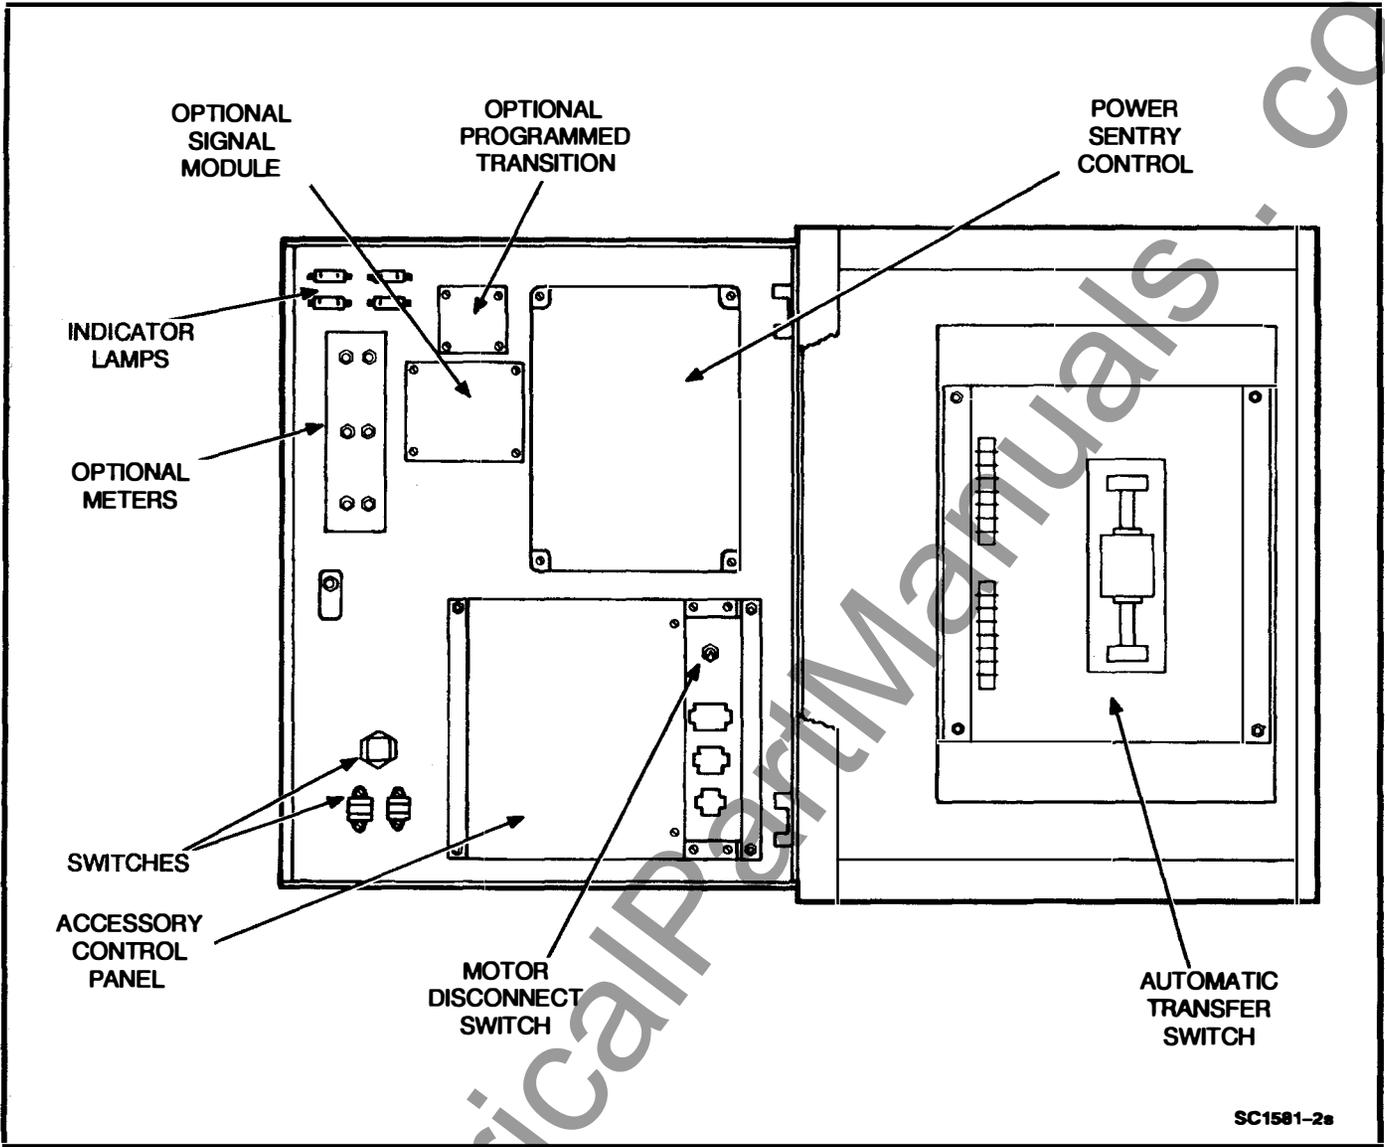

FIGURE 6-3. UTILITY-TO-UTILITY CABINET INTERIOR
The transfer switch (Figure 6-3) opens and closes the contacts that transfer the load between source 1 and source 2 power. The transfer switch is mechanically interlocked to prevent simultaneous closing to both power sources. The main parts of the transfer switch discussed here are the contact assemblies, linear actuator, Motor Disconnect switch, and auxiliary contacts.
The most important component of the electronic control system is the Power Sentry control (Figure 6-3). The Power Sentry includes voltage sensing circuits, time delay circuits and control relays. There are also several adjustment potentiometers and indicator lamps on the Power Sentry. The adjustments must be performed only by qualified service personnel.
**Place the Motor Disconnect switch (Figure 6-3) in the Off position when making adjustments. Return the switch to the Auto position after adjustments are completed.**